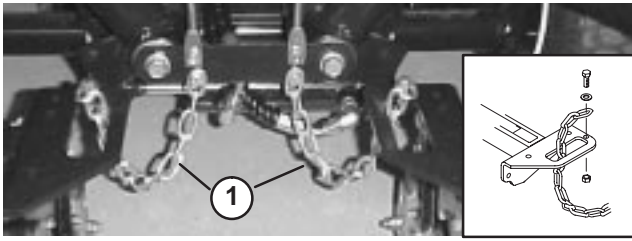

Figure 21
- Route a tipper chain up thru slot in end of each carrier frame. Secure tipper chain to top of carrier frame with a capscrew, washer and locknut (Fig. 21).